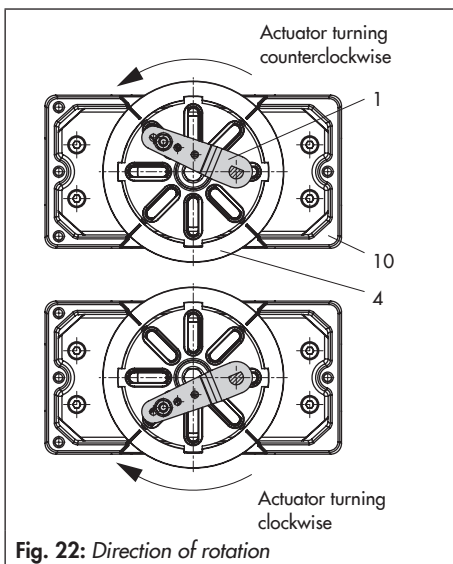

Fig. 22: Direction of rotation
2. Place coupling wheel (4) with flat side facing the actuator on the follower clamp (3). Refer to Fig. 22 to align slot so that it matches the direction of rotation when the valve is in its closed position.
3. Fasten the coupling wheel (4) and follower clamp (3) tightly onto the actuator shaft using screw (4.1) and disk spring (4.2).
4. Fasten the bottom pair of brackets (10.1) with the bends pointing either facing to the inside or to the outside (depending on the actuator size) onto the actuator housing. Position the top pair of brackets (10) and fasten.
5. Mount connecting plate (6) or pressure gauge bracket (7) with pressure gauges on the positioner, making sure the two seals are seated properly. Double-acting springless rotary actuators require the use of a reversing amplifier on the connection side of the positioner housing (see section 5.9).
6. Unscrew the standard follower pin (2) from the positioner's **M** lever (1). Use the metal follower pin ( $\varnothing$  5 mm) included in the mounting kit and screw tight into the hole for pin position **90°**.
7. Place positioner on the top bracket (10) and fasten tight. Taking the actuator's direction of rotation into account, adjust lever (1) so that it engages in the slot of the coupling wheel (4) with its follower pin (Fig. 22). It must be guaranteed that the lever (1) is parallel to the long side of the positioner when the actuator is at half its angle of rotation.
- For **SAMSON Type 3278 and VETEC S160 Rotary Actuators**, fasten the adapter (5) onto the free end of the shaft and for **VETEC R Actuator**, place on the adapter (5.1). For **Type 3278, VETEC S160 and VETEC R Actuators**, place on the adapter (3). or **VDI/VDE version**, only use the adapter when it is required due to the actuator size.
- Fasten coupling wheel (4) on the slotted actuator shaft or adapter (3) using screw (4.1) and disk spring (4.2).
- Unscrew the standard follower pin (2) from the positioner's M lever (1). Attach the follower pin ( $\varnothing 5$  mm) included in the mounting kit to pin position  $90^\circ$ .
- Mount connecting plate (6) for required  $G \frac{1}{4}$  connecting thread or pressure gauge bracket (7) with pressure gauges on the positioner, making sure the two seals (6.1) are seated properly. Double-acting springless rotary actuators require the use of a reversing amplifier on the connection side of the positioner housing (see section 5.9).
- Place positioner on housing (10) and screw it tight. Taking the actuator's direction of rotation into account, adjust lever (1) so that it engages in the correct slot with its follower pin (Fig. 22).